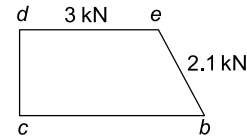

Figure 7.18
To determine R_2 and H_2 , joint (2) can now be considered, as shown by the vector diagram for the joint in Figure 7.18.